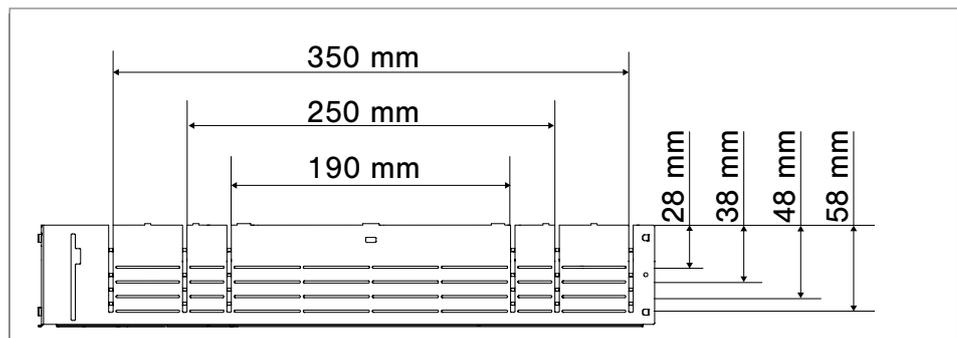

Fig. 30: Cutting the side wall – assignment of the duct height and width
2. Turn the underfloor box ① through 180°.
3. Cut the bridges of the side wall ② according to the required duct height and duct width (see Fig. 30: Assignment of duct height/width).